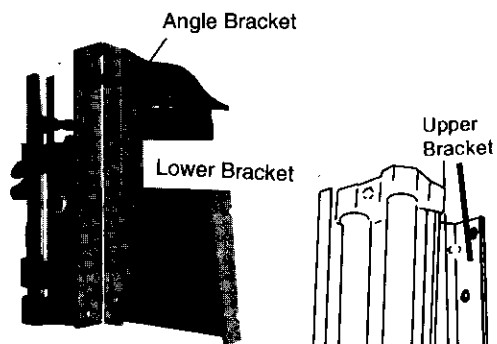

Figure 2
Use two 1/4-20 bolts, nuts, washers, and lock washers to mount the **LOWER BRACKET** to the machine as shown in Figure 2.
2. Remove the two hex nuts, lock washers, flat washers from the upright leg of the Vertical Extrusion at **Angle Bracket** in back. See Figure 2